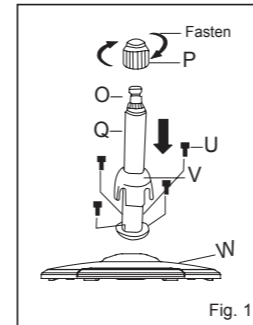
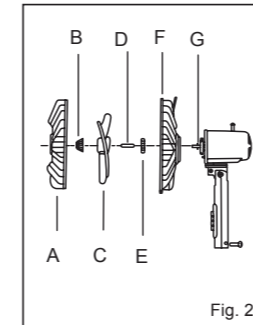
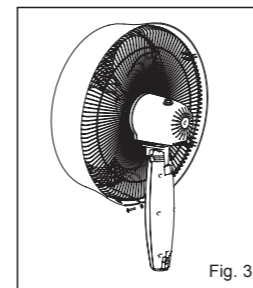

Fig. 1
Fig. 2
Fig. 3
Step 1: Fan Base Assembly (Fig. 1)
- Unscrew the four screws (U) on the base (W), and then attach the external pole (Q) to (W) by tightening the four (U).
- Remove the height adjustment ring (P) by unscrewing it counterclockwise, and slide the stand ornament (V) down (Q) and over (W).
- Use your finger to pull out the internal pole (O). Slide (P) over (O). Fasten it to (Q) by turning the ring clockwise while holding the pole. Make sure (P) is tightly fastened before final assembly.
Step 2.: Fan Head Assembly (Fig. 2)
- Remove the blade cap (B) by turning clockwise. Remove the plastic nut (E) by turning counterclockwise. Discard plastic sleeve (D).
- Position the rear grill (F) over the motor shaft (G), make certain the handle is at the top and the one notch in the rear of (F) cover fit over the three prong on the motor housing (H).
- Secure (F) by turning the plastic nut (E) clockwise and tightening firmly.
- Slide the fan blade (C), with the hollow interior of the blade facing towards (F), onto (G).
- Secure (C) onto (G) by turning (B) counterclockwise until it is firmly in place.
- Mount the front grill (A) with the logo in the proper direction and secure (A) and (F) together by fastening eight grill clips. Secure the screw. (Fig. 3)